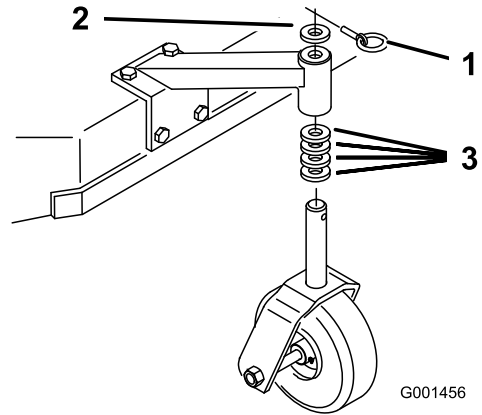

Figure 5
1. Using the Height-of-Cut Chart \(page 8\), adjust the caster spacers to match with the axle hole selected (Figure 5).
2. Remove the latch pin, slide the caster from the support, and change the spacers (Figure 5).
3. Install the caster in the support and insert the latch pin (Figure 5).